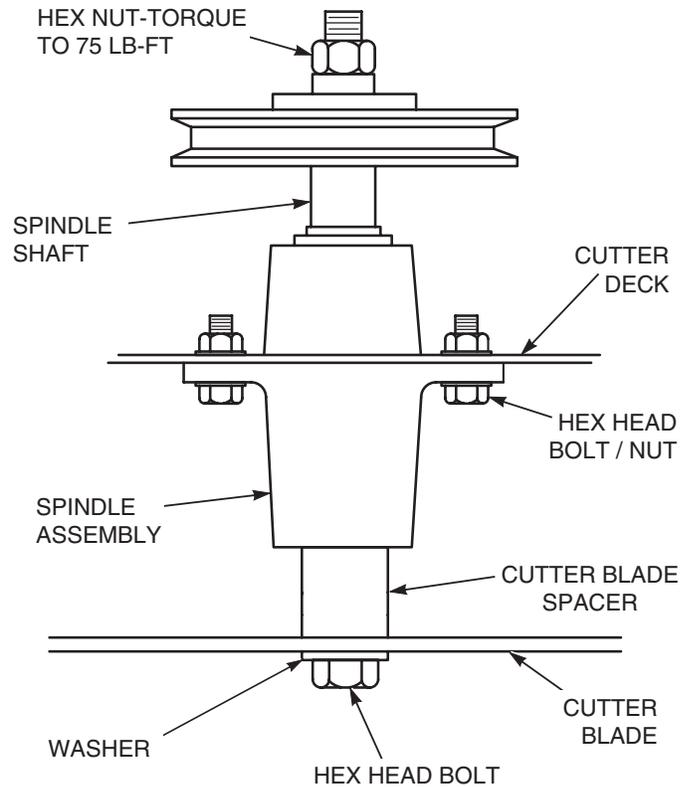

Figure 7-8. Blade Replacement
3. Secure the cutter blades to prevent them from rotating, (use the optional Blade Buddy tool P/N 9212, to assist in securing the cutter blades), remove the nut from the blade attaching bolt. Remove the cutter blade, bolt and spacer from the spindle shaft. See Figure 7-8.
6. Install the hex nut to the blade bolt at the top of the cutter spindle. Secure the blades from rotating and torque to 75 lb-ft. See Figure 7-8.